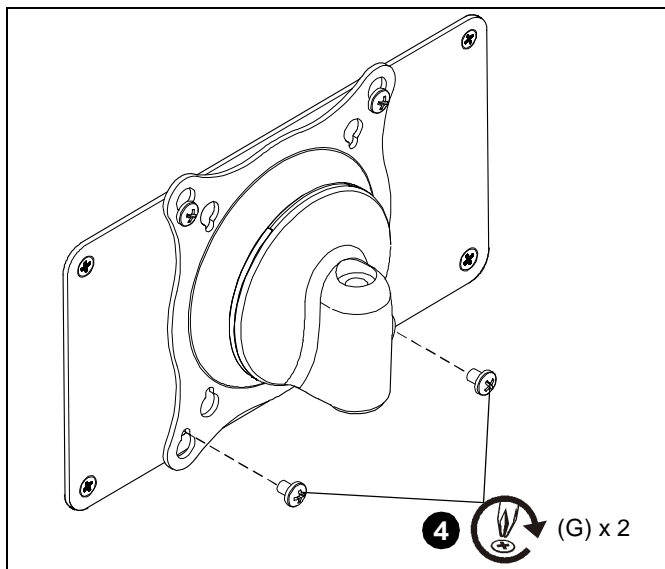

Figure 8
4. Insert two lower mounting screws (G) into lower teardrop mounting holes in Centris head. (See Figure 8)